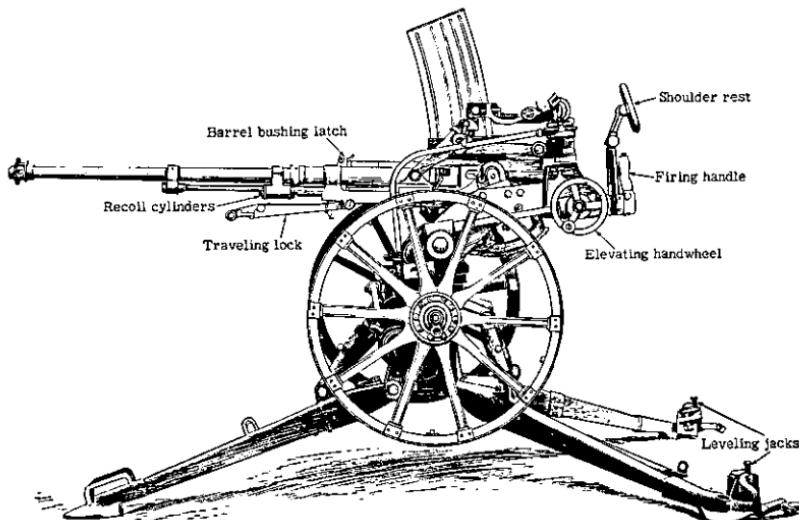

Figure 112.—Model 98 (1938) 20-mm antiaircraft-antitank machine cannon (left side).
- (1) Its general appearance, which is different from any other Japanese field piece (see fig. 112).
- (2) The front outrigger.
- (3) The barrel traveling lock.
- (4) The marking ^九_八 which is on the top of the receiver. (This marking, which is read *Kyuhachi Shiki* from top to bottom, means "98 model.")